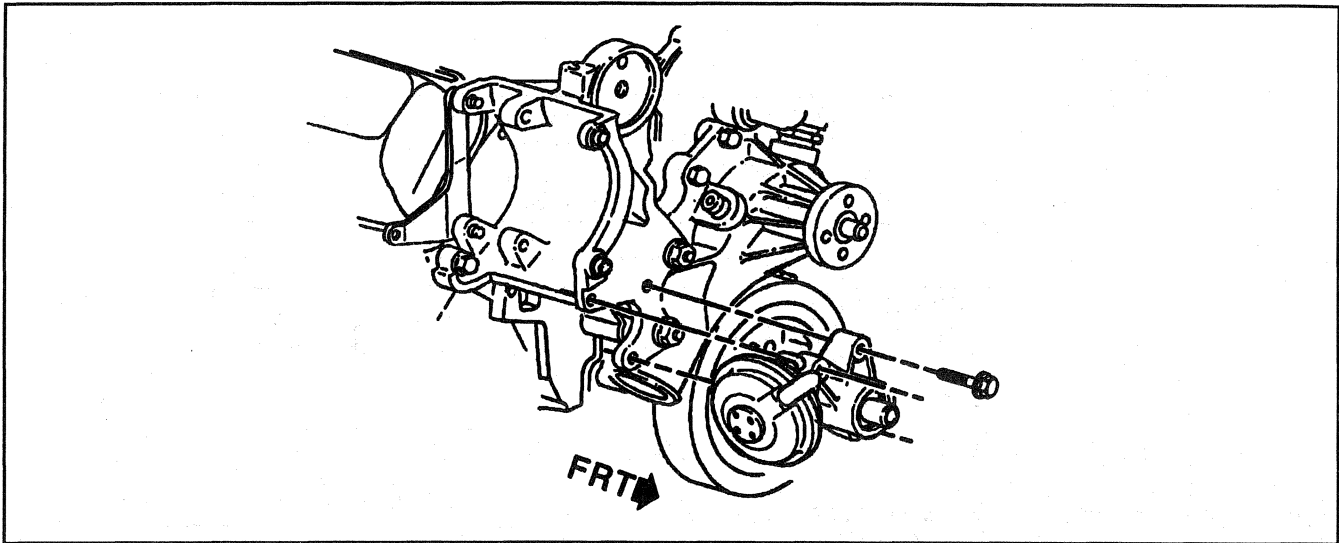

Figure 3—Vacuum Pump Mounting
#### Remove or Disconnect (Figures 3 through 5)
Install or Connect (Figures 3 and 4)
1. Vacuum pump to the bracket with bolts (Figure 3).